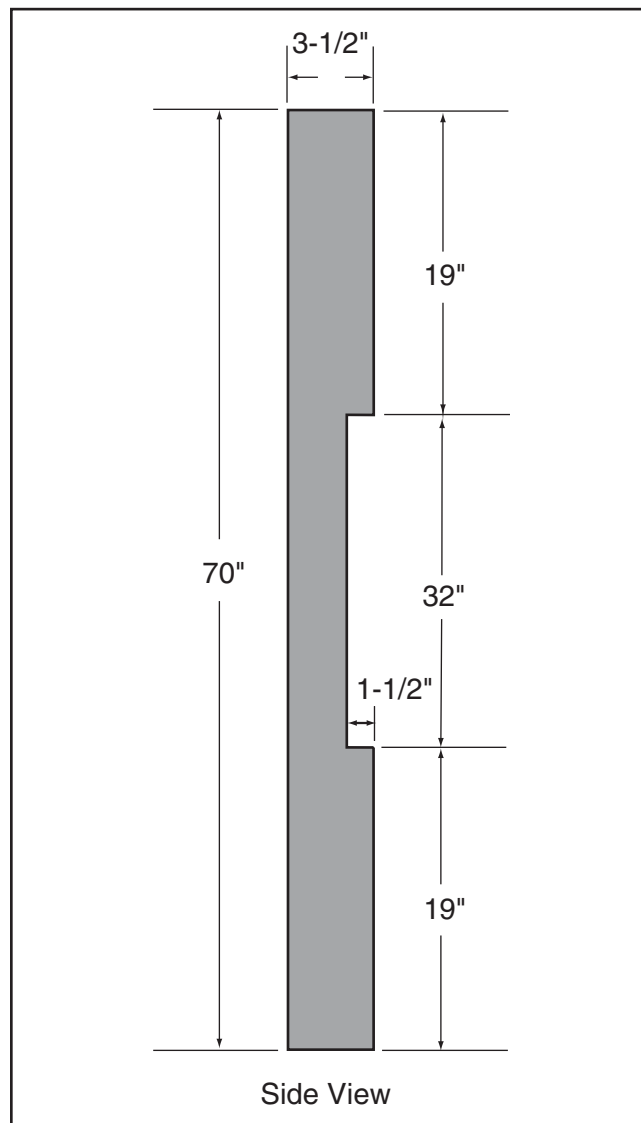

Figure 84. Dimensions of coplanarity gauge.
Coplanarity Gauge (see **Figure 84**) 1
1. Make the "Coplanarity Gauge" shown in **Figure 84**.